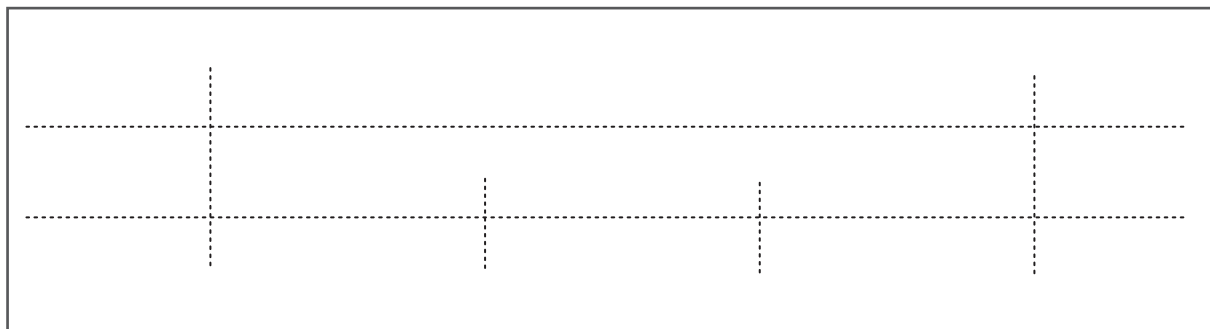

Figure 2
4. Mark intersecting vertical lines through the top and bottom horizontal lines on both ends and the bottom only for the track supports in between. Ensure vertical lines are evenly spaced (Figure 2).